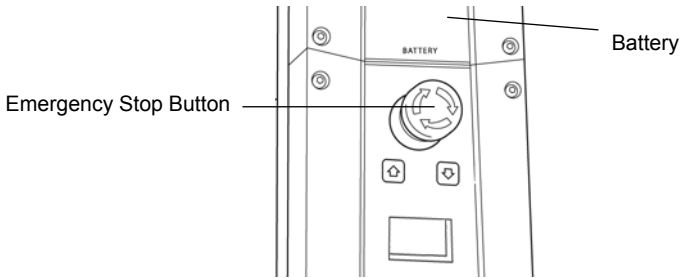

Fig. 7
6. Clip the battery onto the control box and ensure the red emergency stop button, located on the controller is in the out (ON) position by turning clockwise (Fig. 7).